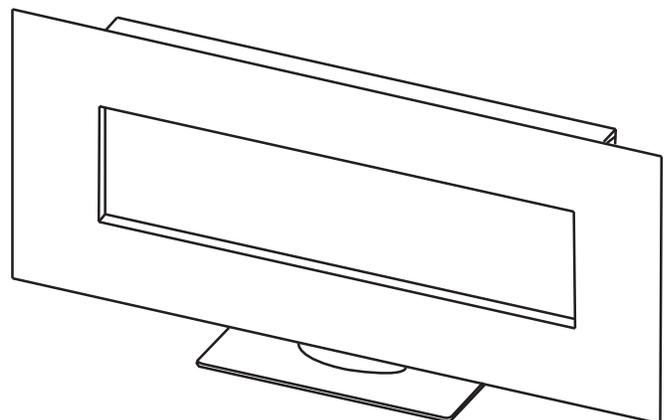

Fig. 4
- F. Check if the glass stand is secured properly. Ensure appliance is standing straight and still (**Fig. 4**).